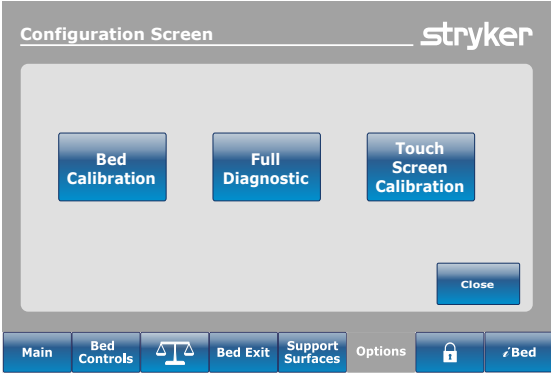

Figure 3: Configuration Screen Menu Items
The following are menu items available in the Configuration screen (Figure 3):
- 1. To start the bed calibration, press the Bed Calibration button on the Configuration Screen (refer to Figure 3).